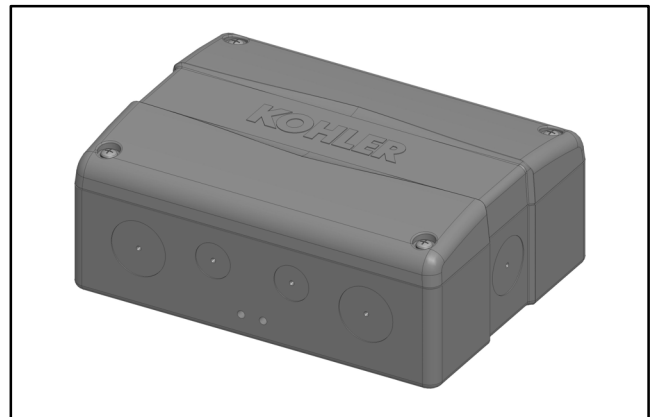

Figure 2-21 Kohler Power Relay Module
Kohler® power relay modules include one power relay mounted inside a NEMA type 3R enclosure. Connect up to four (4) power relay modules to the load shed kit. See Figure 2-21 for an illustration of a power relay module.